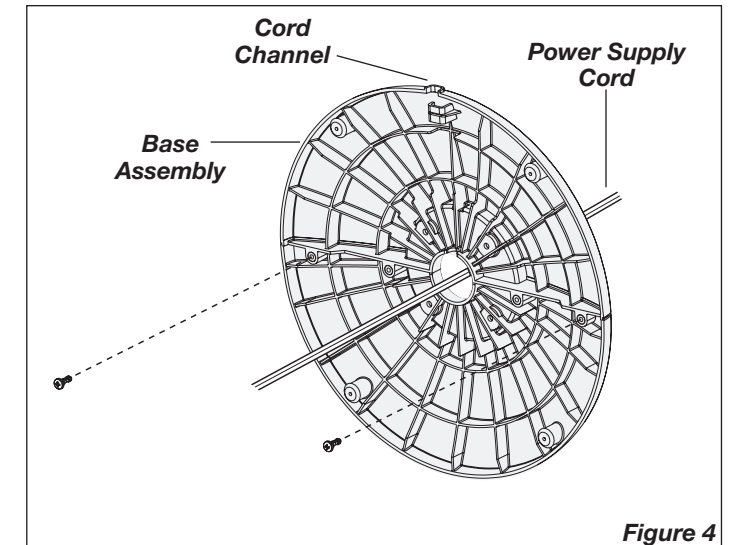

Figure 4
4. Secure the Base halves with (2) M4 X 13mm Screws. Thread the **Power Supply Cord** through the large hole in the **Base Assembly**. **NOTE:** The **Cord Channel** on the bottom of the Base should be towards the back of the Heater. (Figure 4)